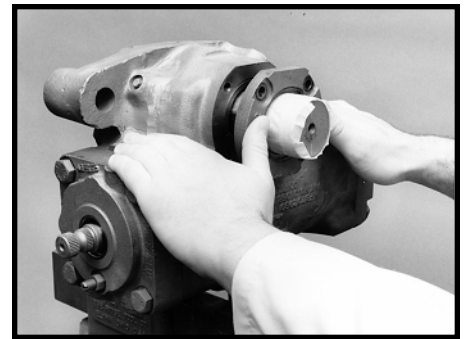
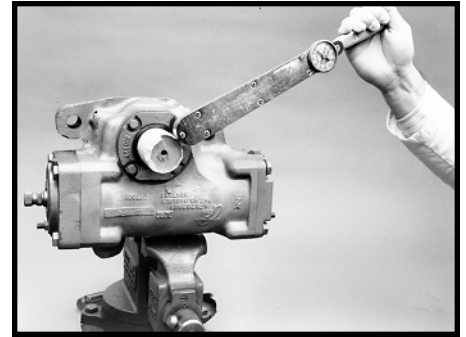

Figure 154
Figure 155
50. Before installing the trunnion cover (25) and seal assembly onto the housing (19), visually inspect the housing bearing (20) to insure that all bearing rolls are properly in place. Then, install the trunnion cover. SEE FIGURE 154. Install four trunnion cover bolts (28) and washers (27) and torque the bolts to 15-22 ft. lbs. (20-30 N m) if dry or 11-16 ft. lbs. (15-22 N m) if lubricated. SEE FIGURE 155. A 1/2 inch socket required. Pack clean high temperature industrial grease per Ross specification 045231. * Mobil Temp 1 or 2 grease or equivalent around the seal area of sector shaft (48). Install a new dirt and water seal (26) using a suitable blunt end drift.